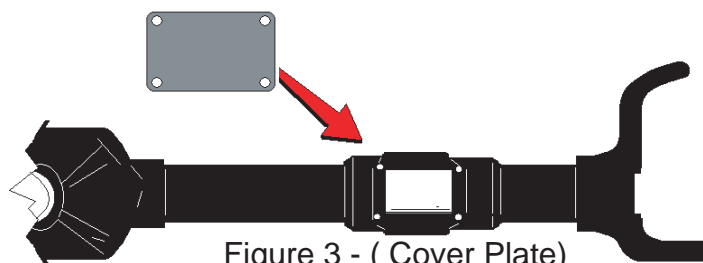

Figure 3 - (Cover Plate)
Step 4: Install new Block-Off plate in place of vacuum disconnect cover. Either an O.E. gasket or silicone sealant can be used (Fig.3).